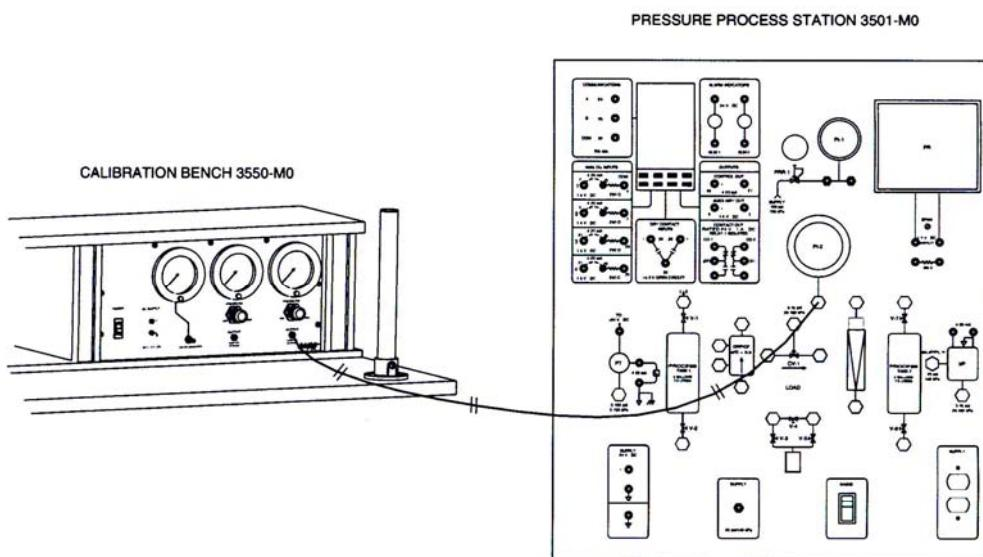

Figure 1-2. Calibration of a Pressure Gauge.
- 2. Connect the gauge to the 0-690 kPa (0-100 psi) regulator port. Refer to Figure 1-2. Attach a male "Eastman" fitting to the end of the tubing which connects to the regulator port. Use a wrench to tighten the fitting slightly more than finger tight. For most applications, finger tight is adequate. However, in this exercise you are working with high pressures.